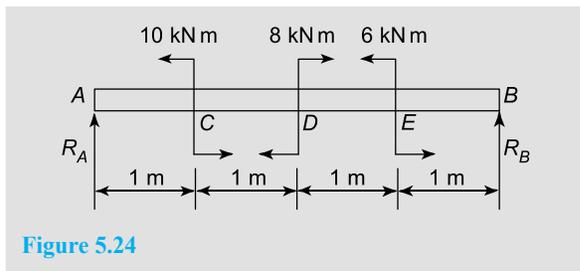

Figure 5.24
**Problem 13.** Determine the reactions for the simply supported beam of Figure 5.24.